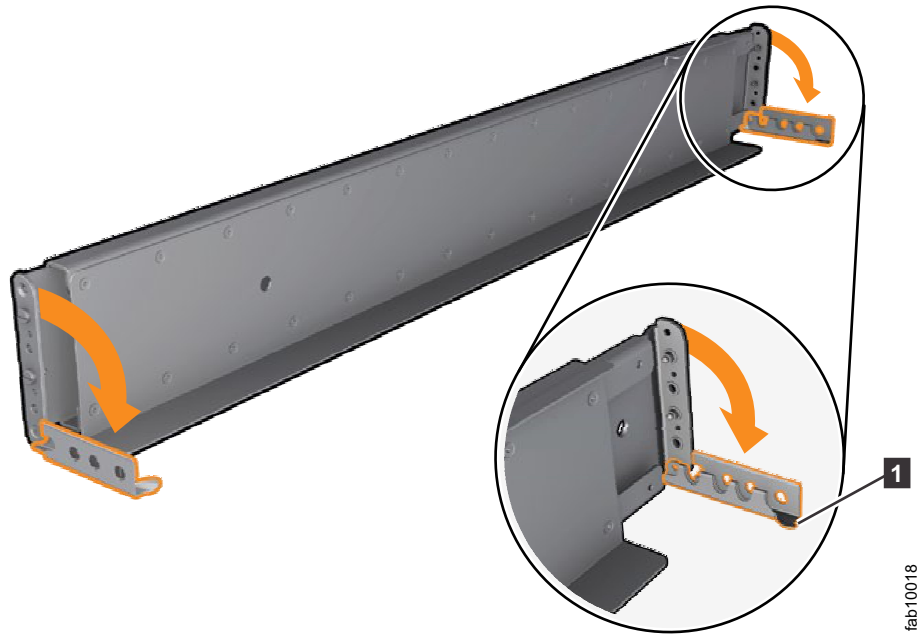

Figure 11. Opening the hinge brackets
5. At each end of the rail, grasp the tab **1** and pull *firmly* to open the hinge bracket. (See Figure 11 on page 16.)